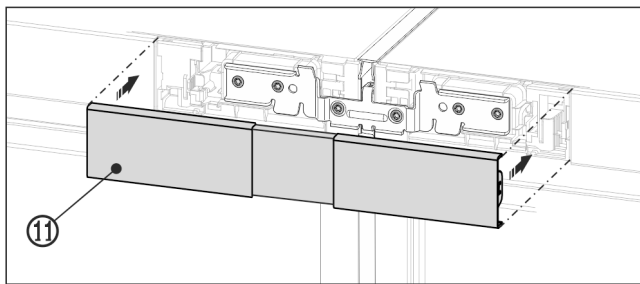

Fig. 21 Example illustration
- Snap the top cover Fig. 21 (11) onto the still open gap between the two control panel trims. Make sure that the outer sides of the cover form a flush finish with the control panel trims.